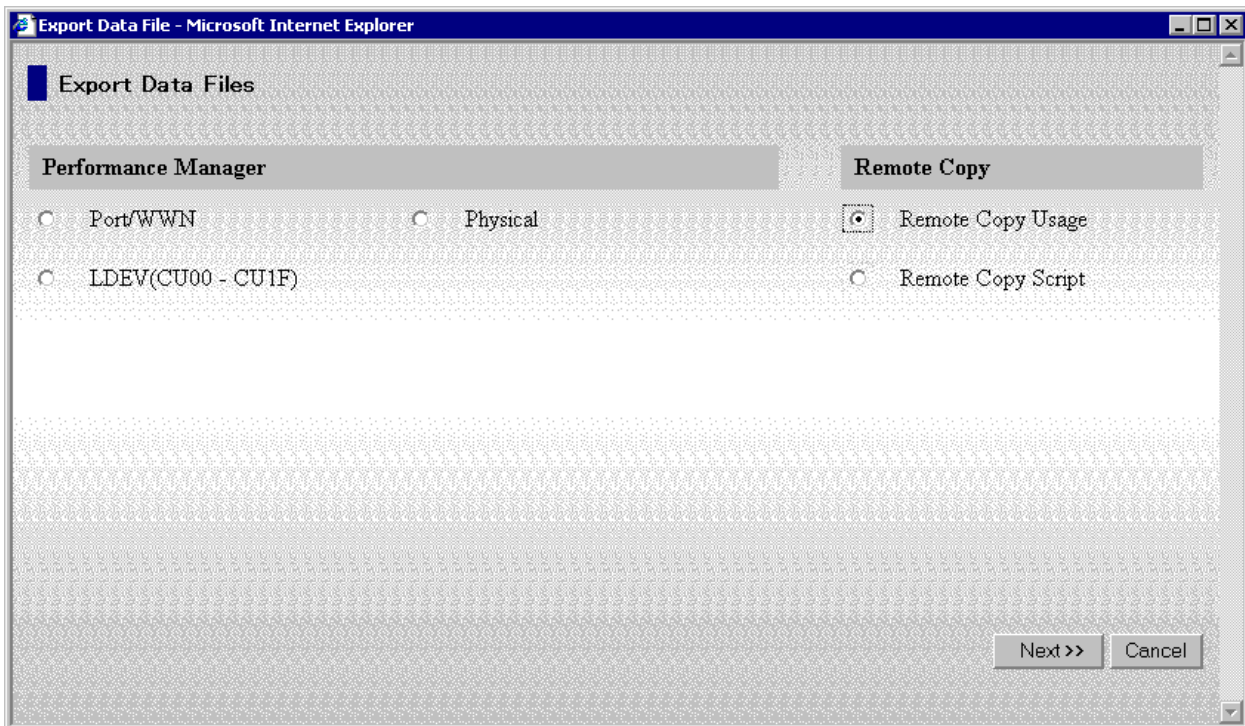

Figure 4.33 Export Data Files Panel
2. Select the **Export File** button (📄) on the Hitachi Remote Console - Storage Navigator main panel to open the Export Data Files panel (see Figure 4.33).